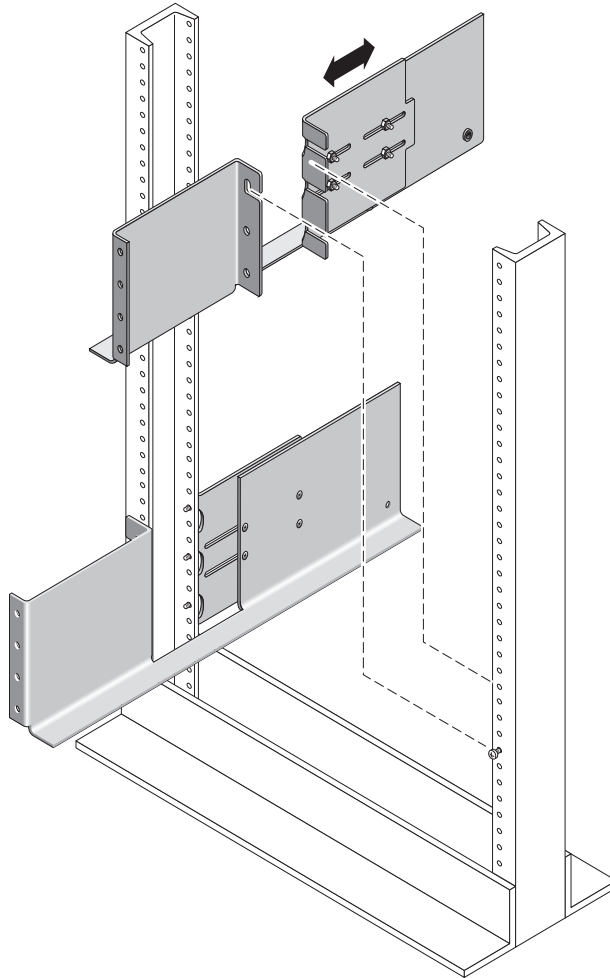

FIGURE C-2 Seating the Mounting Rails Over the Front and Back Screws
2. Align the open slot of the left mounting rail over the front and back screws of the left post, and press the rail down until it is seated over the screws (FIGURE C-2). Repeat for the right rail.